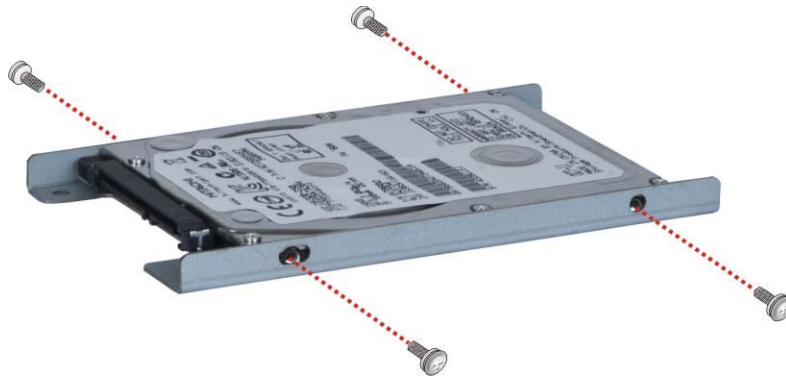

Figure 3-9: HDD Retention Screws
Step 3: Attach the HDD brackets to the HDD. To do this, align the four retention screw holes in the both sides of the HDD bracket with the retention screw holes on the sides of the HDD. Insert four retention screws into the HDD bracket (**Figure 3-9**).